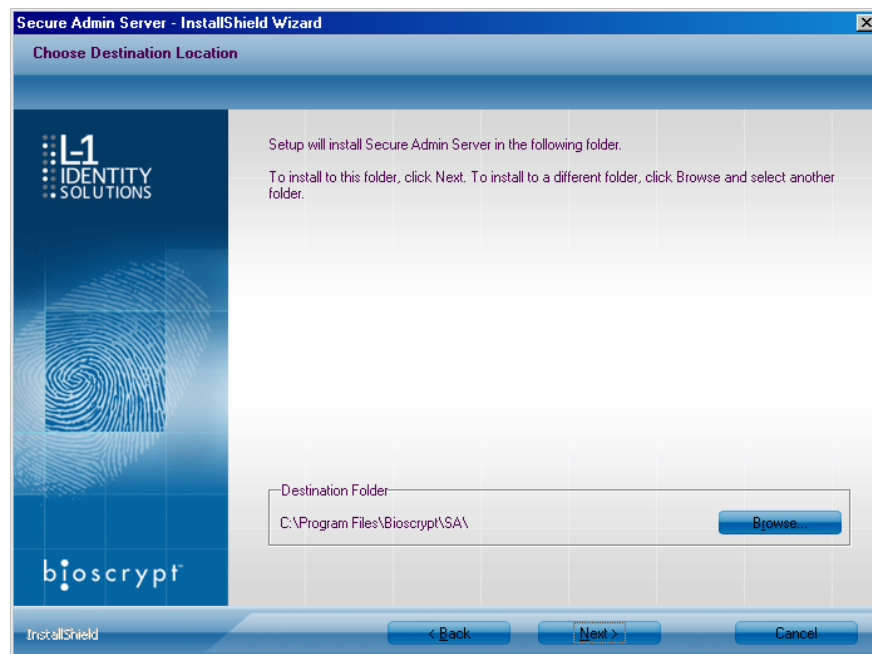
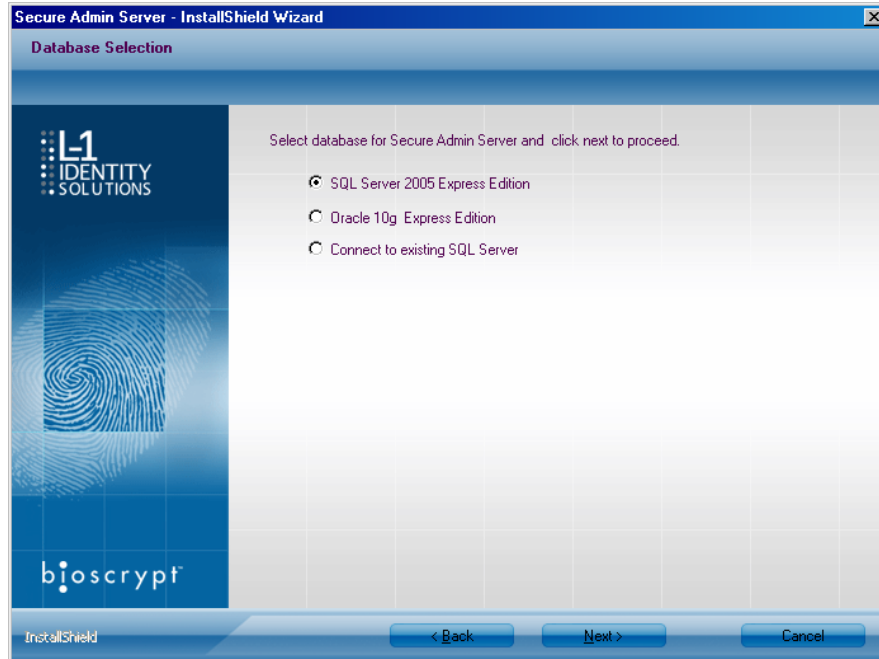

Figure 3-6: SecureAdmin Server Choose Destination Location
Figure 3-7: Database Selection
7. The Choose Destination Location screen is displayed (see Figure 3-6). Accept the default installation folder and click the **Next** button or click **Browse** to choose your own installation path. After you specify a destination folder, the Database Selection screen is displayed (see Figure 3-7 on the next page).